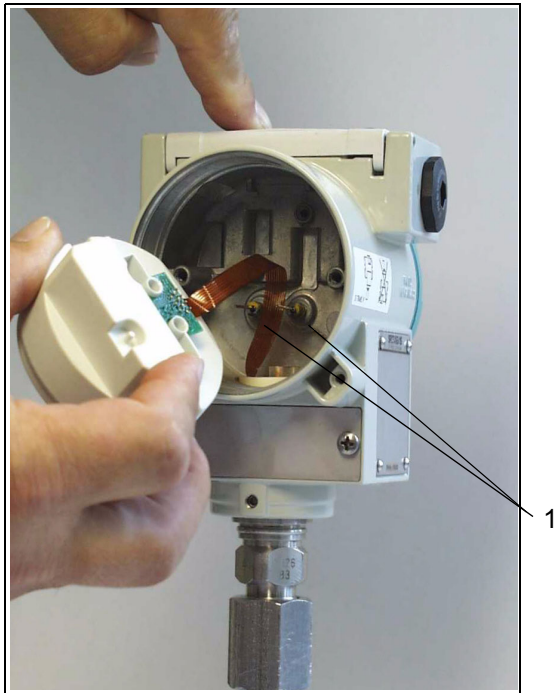
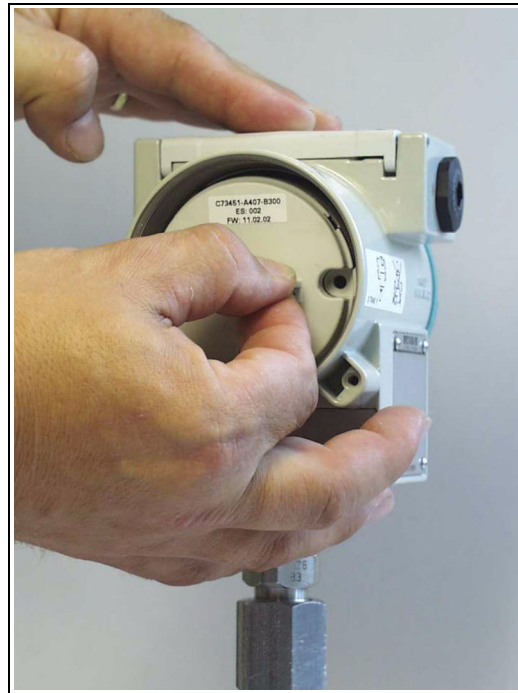

Figure 18 Arrange the conductor band between the feed-thru pins (1)
Figure 19 Insert the electronic case
7. Reinstall the individual components in reverse order (Figure 19, page 62). Ensure that you do not switch contacts for the feed-thru pins (1, Figure 18, page 62). The conductor band for the measuring cell should lie between the feed-thru pins (1, Figure 18, page 62). The conductor band for the keypad circuit board (as of product release 30) lies on the left between the feed-thru pins. The LCD must be inserted according to the labeling into the electronics and screwed tightly onto the threaded bolts (Figure 23, page 63). The conductor band must be run through a small slit in the holder (Figure 24, page 63).
12. Insert the electronics into the housing in a way that it fits. Pay attention to the right contact of the feed-thru pins (1, Figure 18, page 62). The conductor band should be between the feed-thru pins.